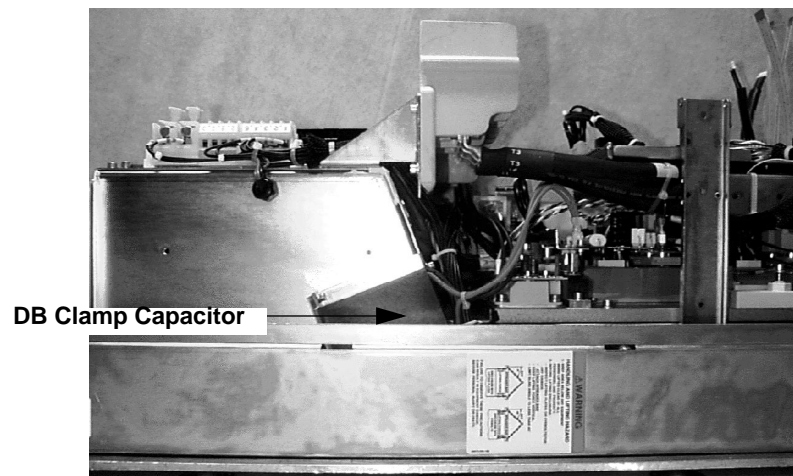

Figure 4.2.23: Removing the DB Clamp Capacitor
- Clamp capacitors. Refer to Figure 4.2.14 on page 4.2.27 and Figure 4.2.23 on page 4.2.46 for location.
5. With a hex key, remove the clamp capacitor bracket screw and lift out the clamp capacitor assembly (see Figure 4.2.23).